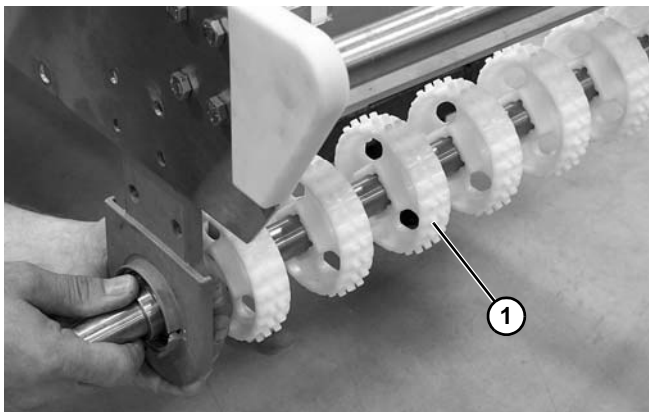

Figure 59
7. Remove the tail assembly (**Figure 59, item 1**).